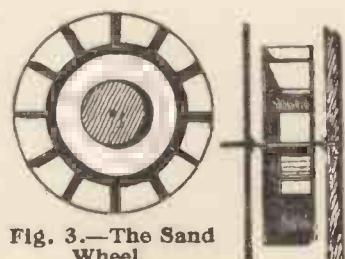

Fig. 3.—The Sand Wheel.
**The Sand Wheel.**—Fig. 3 shows how the wheel is constructed from card-board. The left-hand view is as it would appear with one face removed. In the centre is a wooden disc to afford a good fixing for the wire shaft.